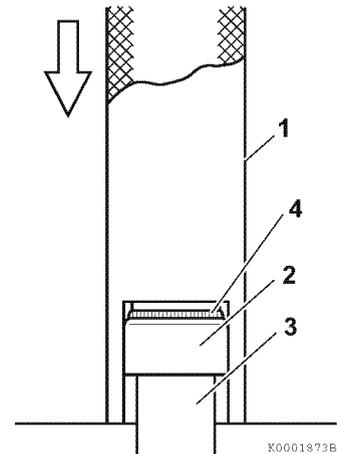

Figure 6-32
1. Oil the lip of the valve stem seal (2, **Figure 6-32**). Using the valve stem seal installation tool (1, **Figure 6-32**), install a new valve stem seal on each of the valve guides (3, **Figure 6-32**).